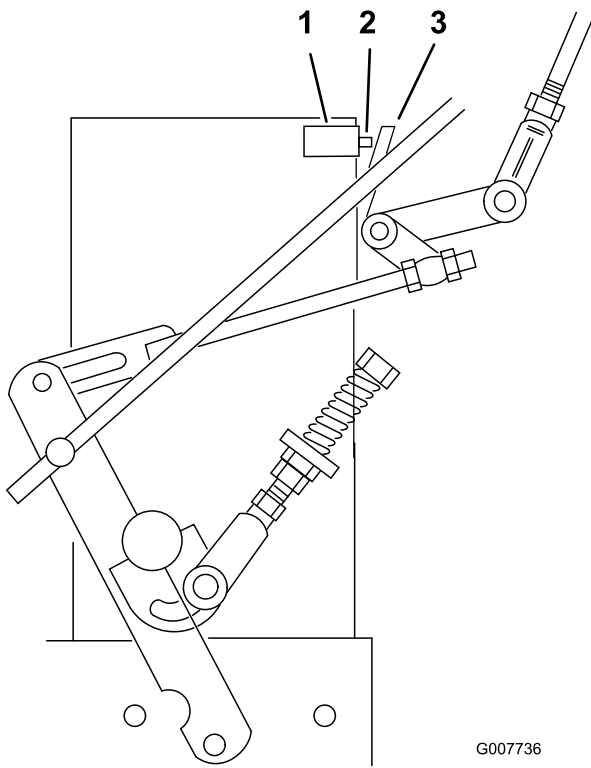

Figure 31
7. Check to make sure the safety switch is depressed and there is a 8 mm (5/16 inch) space between the actuating tab and the switch. (Figure 31).
8. If needed, adjust switch location to create the 8 mm (5/16 inch) space (Figure 31).